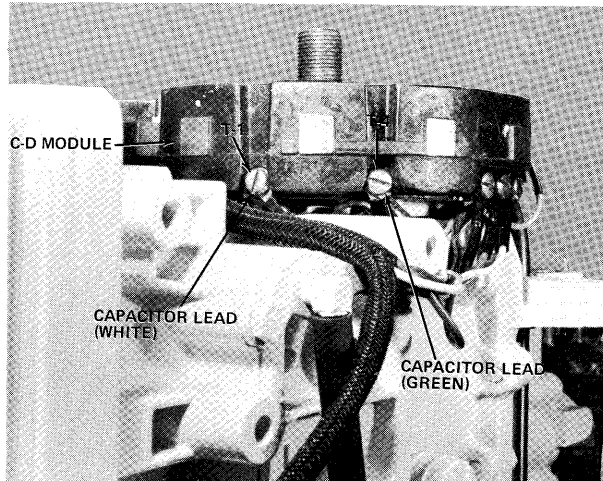

Figure 20 - Connecting Capacitor Leads to C-D Module
- B. Install two (2) screws, lead wires and lockwashers securing capacitor leads to C-D module. See figure 20 for location of leads.